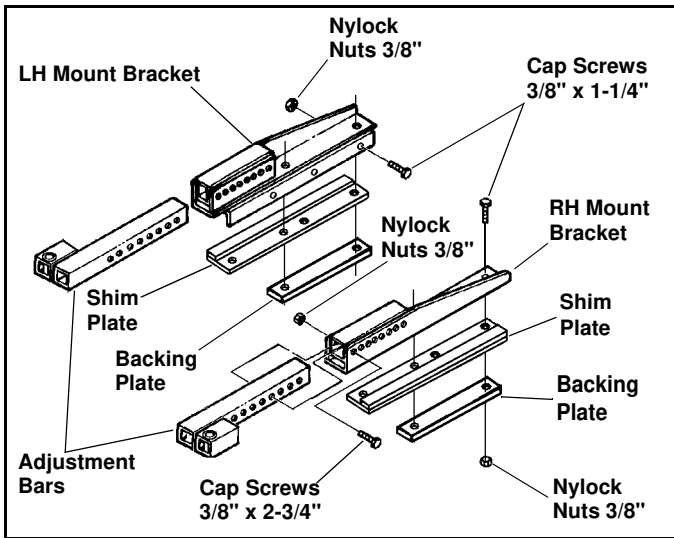

Figure 1-1
2. Locate the following parts: (See Figure 1-1)